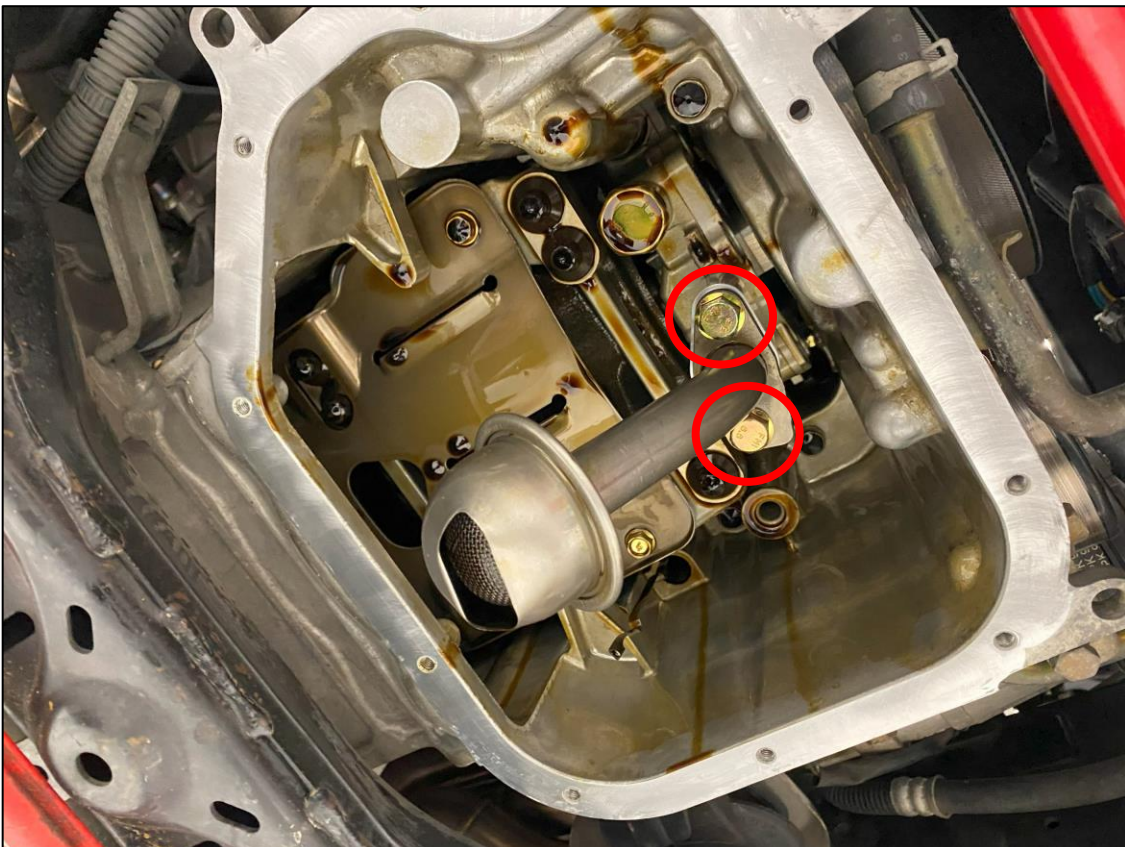

Figure 7
10. Locate the (2) two M8 x 40mm Flanged Hex Head Screws, and the Oil Pickup Spacer. Place the Pickup Spacer on top of the OE Oil Pickup and secure it to the engine with the (2) two M8 Screws. Torque to **16 ft-lbs.** *Figure 7.*